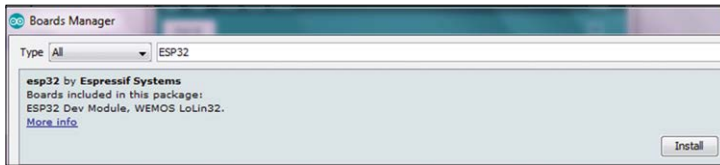

Figure 14.2 Search for ESP32
- Click **Tools -> Board -> Board Managers** window and search for ESP32 as shown in Figure 14.2